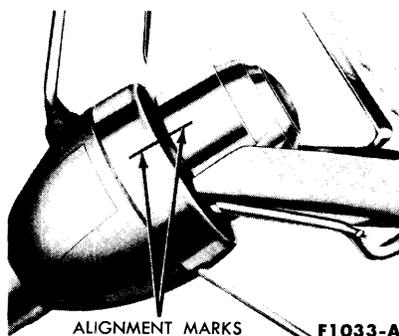

FIG. 1—Typical Straight-Ahead Position Marks
1. Drive the car in a straight line far enough to establish the straight-ahead position of the front wheels, and then mark the steering wheel hub and the steering column collar (Fig. 1). **Do not adjust the steering wheel spoke position at this time.** If the front wheels are turned at any time during the inspection, align the marks to bring the wheels back to the straight-ahead position.